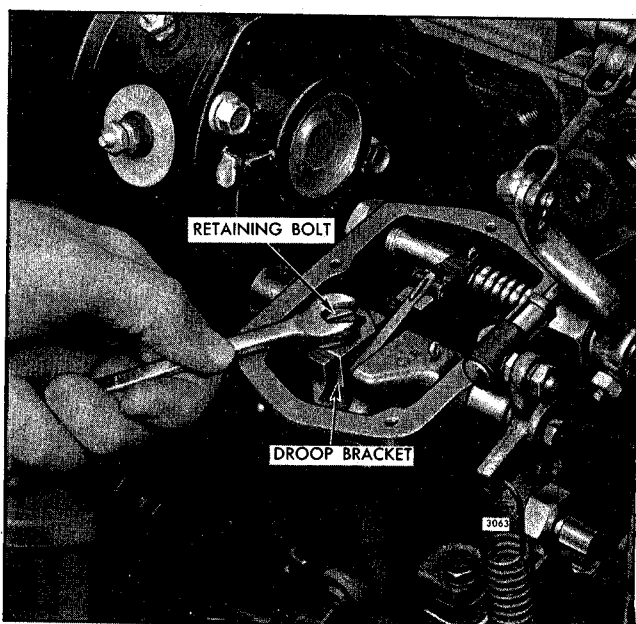

Fig. 4 - Adjusting Droop Bracket
4. Refer to Fig. 4 and loosen the droop adjusting bolt. Move the droop bracket so that the bolt is